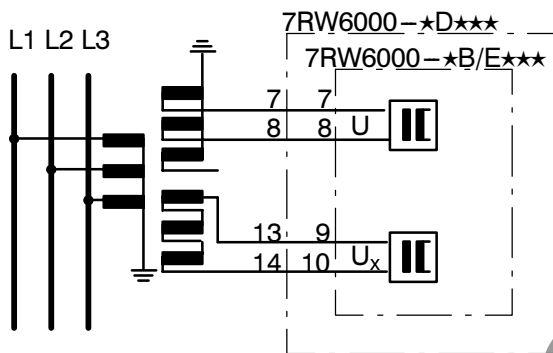
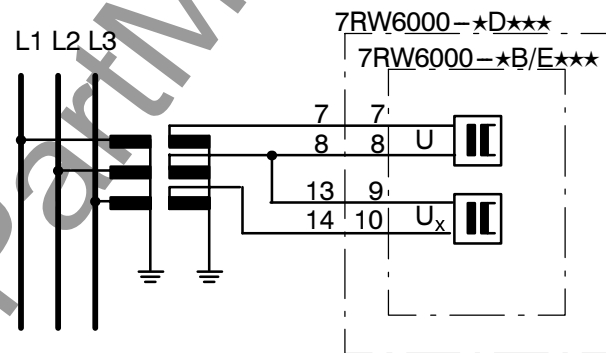

Figure 5.4 Connection example for two independent single-phase voltages
Figure 5.5 Connection example for two phase-to-phase voltages in V-connection
be used for a separate and independent measured voltage (see Figure 5.4). Alternatively, the two inputs can be connected phase-to-phase to a three-phase system in V-connection (see Figure 5.5).
- Is the phase relationship of the voltage transformers correct? The relay may be connected corresponding to Figure 5.4 (single-phase, whereby input U_x may be left open) or to Figure 5.5 (V-connection, whereby the main v.t.s may be installed in three-phase or V-connection). This must be in accordance with parameter "MEAS" (address 7901, refer to Section 5.4.2).